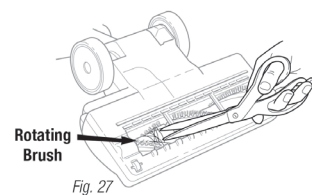

Fig. 27
- Inspect the opening underneath and the rotating brush. If a build-up of debris is present, remove it. Carefully cut anything wound around the rotating brush with scissors. Avoid damaging or cutting the bristles. (Fig. 27)